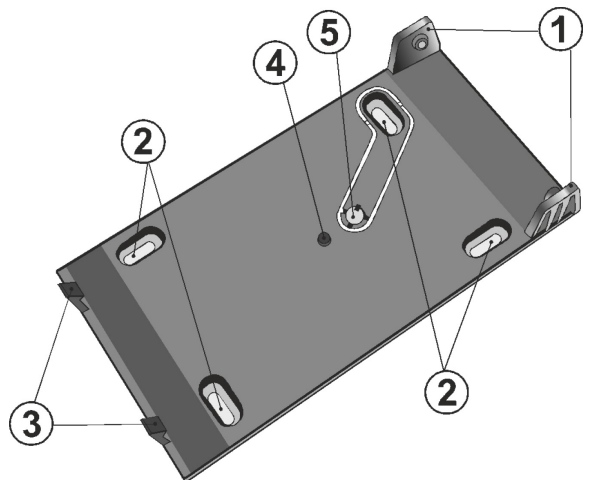
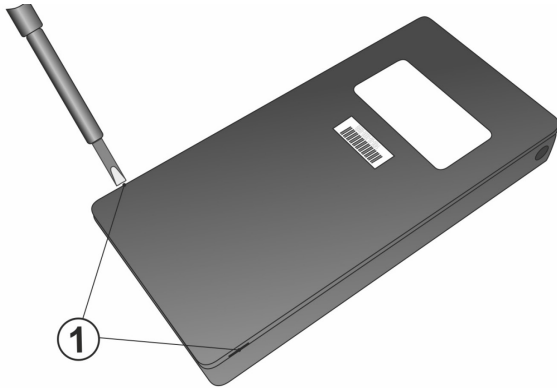

Fig. 3: Mounting platform: 1. Hinges, 2. Fixing screw holes, 3. Latches, 4. Button activation plastic protrusion, 5. Sabotage magnet segment (sabotage sensor)
Fig. 4: Method of opening the panic button: 1. Two indentations for opening the device with the use of a flat-head screwdriver.
We recommend installing the panic alarm button onto the mounting platform (Fig 3.). The mounting platform allows for installation onto various types of surfaces and allows for the detection of tampering should the device be removed from the mounting platform. The device may be used without the mounting platform, however due to the fact that the tamper device is not present it is necessary to disable the device's tamper sensor via F-Link. It must be noted that utilizing the device without its mounting platform results in non-conformity to Security Grade II classification.
1. Remove the panic button from its mounting platform by applying small force to the sides of the hinges, (1, 3) see Fig.3, thus prying them apart. This action is best performed with the use of a flat tool.
2. Fix the mounting platform to the desired location with the use of four screws. (2).
3. Remove the device's backplate, this action may be performed by prying it away with the use of a flat-head screwdriver as shown in Fig.4.
Important: Place the panic button into the mounting platform by placing it between the hinges (1) so that both latches are securely in place (3) Fig. 3. Orientation of the panic button is dependent on whether the customer wishes to utilize direct button activation by hand or bypassing the entire surface of the device so that the device may be operated by hand, knee or foot*.
The control panel automatically detects and reports low battery status. It is necessary to enter the system into the service mode before the battery replacement takes place (the button is equipped with a tamper sensor). The device may be opened as show on Fig. 4. Before placing new batteries into the device, wait at least twenty seconds or repeatedly press the activation button (in order to discharge any remaining energy within the device). In order to assure correct functionality of the device, we recommend the utilization of batteries supplied by the Jablotron distribution network or any other high-quality brand-name alkaline batteries.